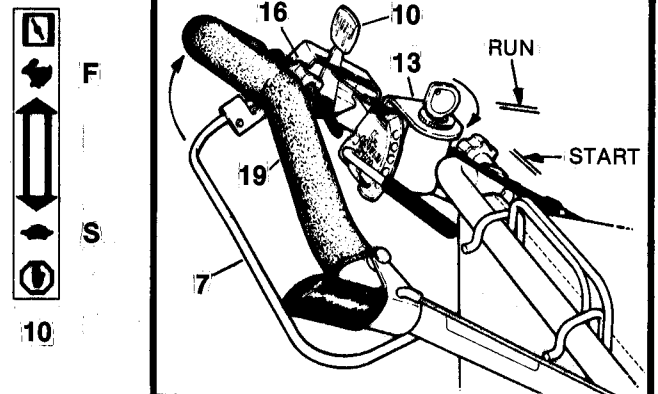

FIG. 4-ELECTRIC START
ELECTRIC START: The **KEY/IGNITION** switch (13) has two positions - **RUN** & **START**. The engine **CAN NOT** be stopped at the switch! Stopping the engine is accomplished by moving the **ENGINE CONTROL** to the **STOP** position. Refer to FIG. 4.
1. Move **ENGINE CONTROL** lever (10) to **START (CHOKE)** position.